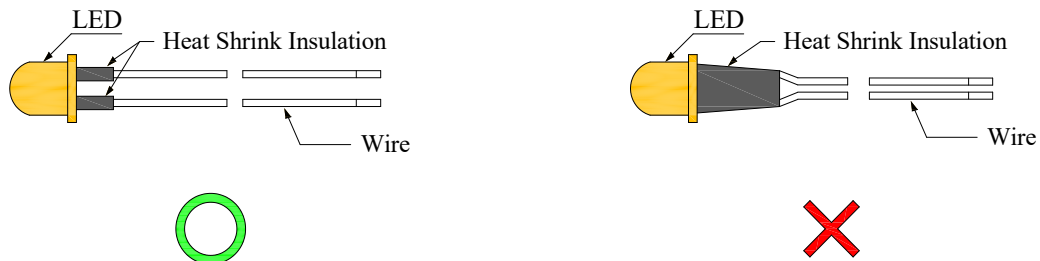

Fig. 2
3.2. When soldering wires to the LED, each wire joint should be separately insulated with heat-shrink tube to prevent short-circuit contact. Do not bundle both wires in one heat shrink tube to avoid pinching the LED leads. Pinching stress on the LED leads may damage the internal structures and cause failure. (Fig. 2)